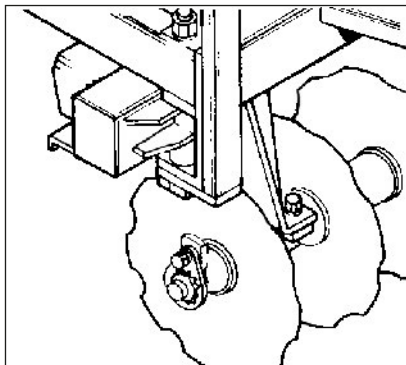

Figure 4
- 10 - Observe in the assembly of frames that the fixing bracket of the bearing (shoe) should face the concavity of the disc, as shown in figure 4.